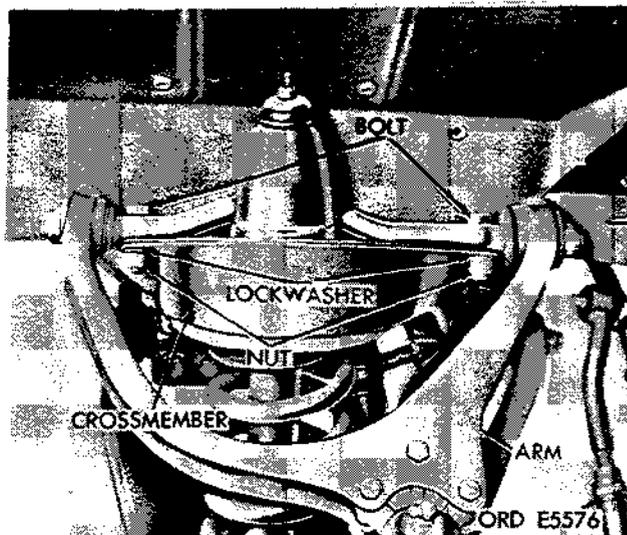

Figure 2-331. Disconnect upper suspension arm from front crossmember.
- (3) Remove two bolts, nuts, and lockwashers securing upper suspension arm to front crossmember (fig. 2-331).